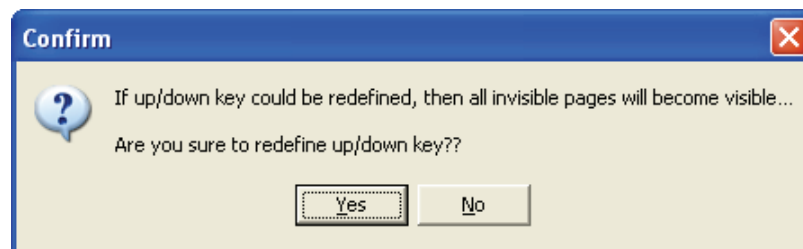

Figure 1-133
- Step 3. When click **Tools(T) > Function Key Setting(F) > Re-Define Up/Down Key(R)**, the following Confirm dialog box will open (Figure 1-133).